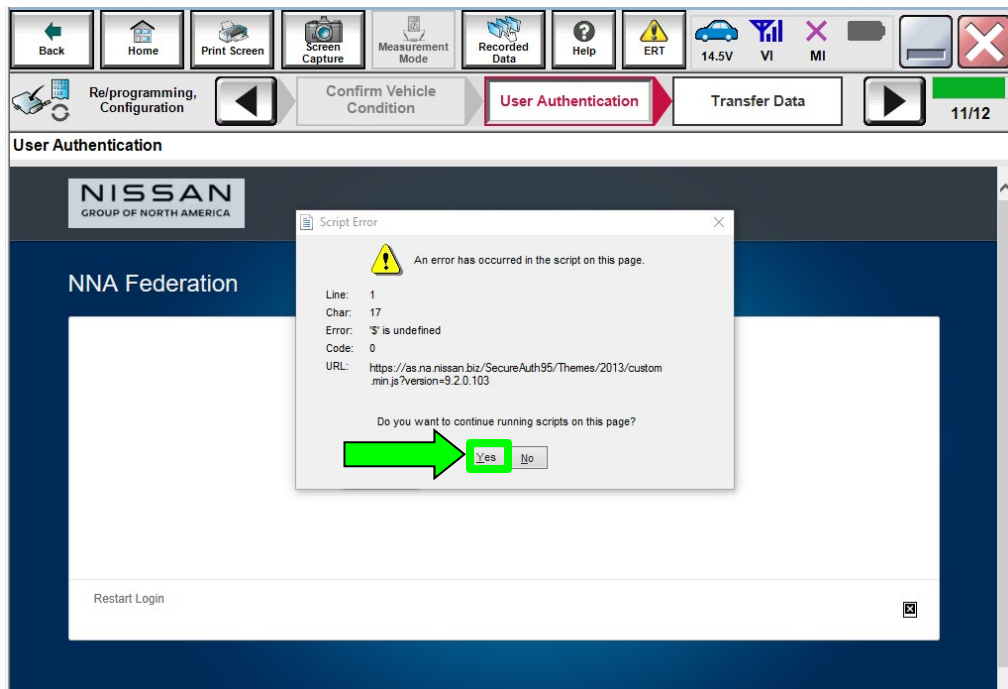

Figure 18
24. If the Script Error message in Figure 18 is shown, Select **Yes**.